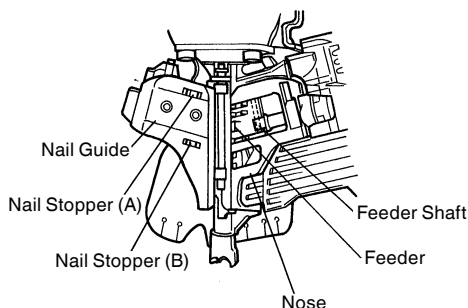

Fig. 22
- (2) Open the nail guide and remove dust, etc., as shown in **Fig. 22**. Apply lubricant to the sliding groove of the feeder and feeder shaft. Check nail stopper (A) and nail stopper (B) slide smoothly by pushing them with your finger.